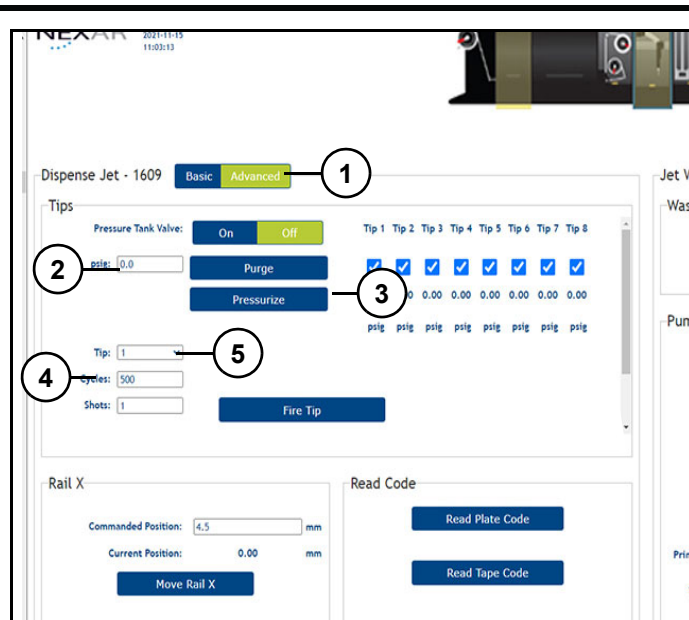

Figure 23
Refer to (Figure 23).
6. Click "Basic" (1).
7. Click "Dispense" (2).
8. Check location of air gap in tube of tip selected. If air gap is not at correct ending point (as it was in Step 8), change value in "Cycles" (4) (*Figure 23*).